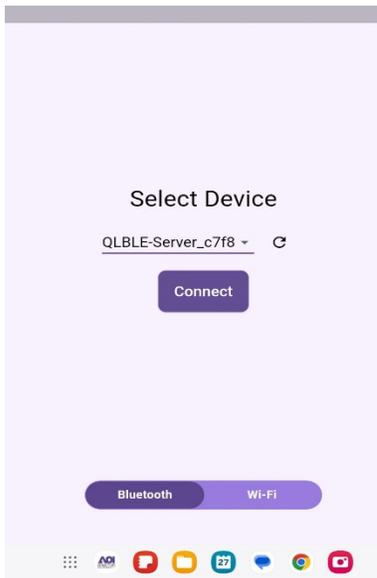

Figure A- 5: Device Connection
- Establish point to point connections via Bluetooth between the technician's portable device and the QuantumLink Local Wireless Interface by using "Select Device" drop down in the QuantumLink Local Mobile Application menu to select the proper QuantumLink Local Wireless Interface. Figure A-5.